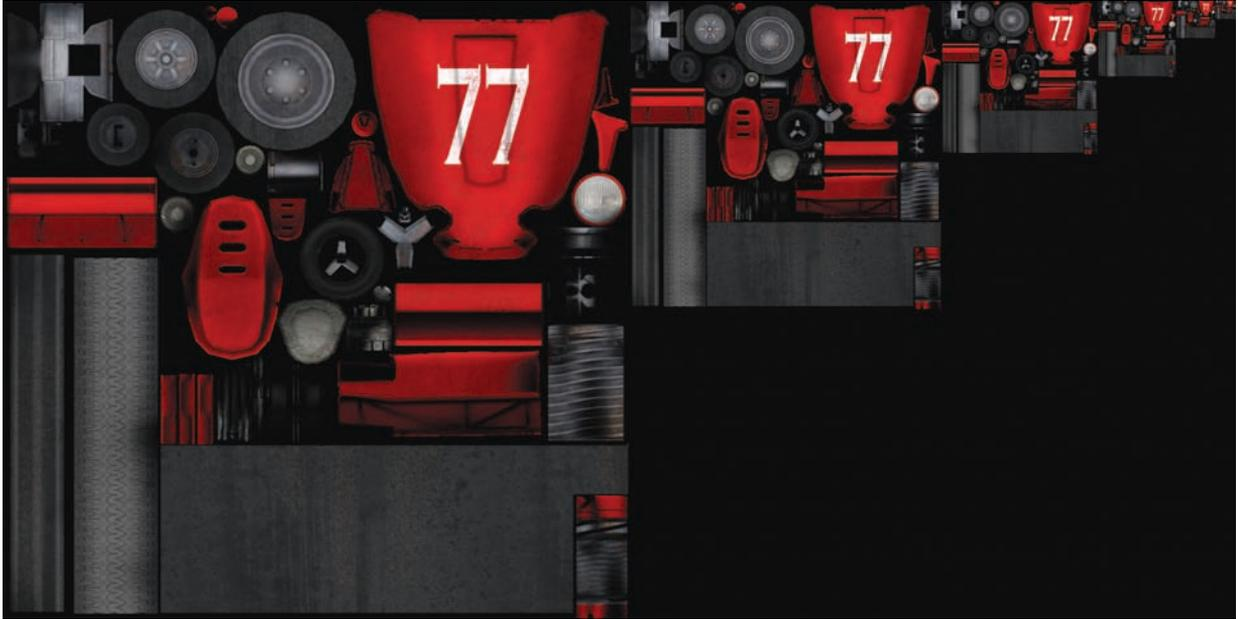

Figure 9.3
6. Do the same with the duplicate layer: Duplicate it again, scale this duplicate by 50 percent, and position it directly to the right. Eventually you get something like Figure 9.3.